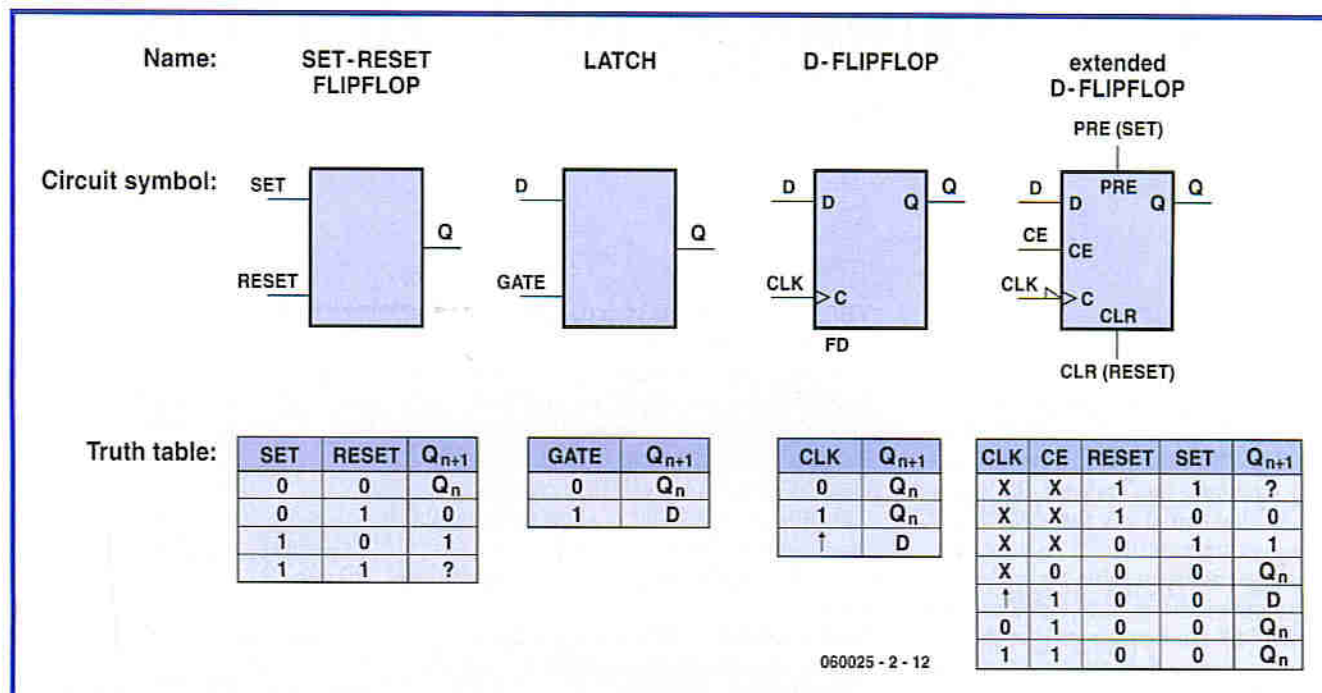

Figure 2. Various types of flip-flops and their truth tables.
How can this be translated into a truth table? The answer is shown in Figure 2.
A slightly more advanced form of flip-flop is the type known as a 'latch'. Its truth table is shown in Figure 2. This type of flip-flop has two inputs – D ('data') and Gate – and one output (Q). The Q output is the same as the D input as long as the Gate input is '1'. When the Gate input goes to '0', the Q
The D-type flip-flop can be expanded with a variety of additional inputs. **Figure 2** shows such an expanded D-type flip-flop. It has three inputs in addition to the D and CLK inputs: SET, RESET and CE. The SET and RESET inputs perform the same functions as with an SR flip-flop. The clock enable (CE) input of this flip-flop controls the response to the clock signal: a rising edge on the CLK input has no effect if the CE input is not in the High state.